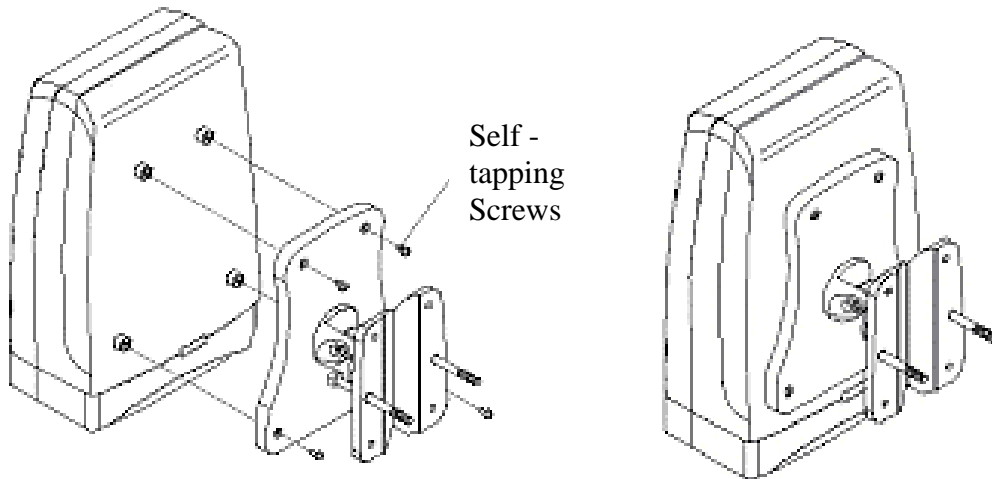

Figure 10-8: Mounting bracket assembly secured to IDR
5. Once assembled, the IDR mounting bracket assembly may be secured to the rear of the IDR using the 4-off self-tapping screws supplied in the unit fixing kit. See Figure 10-8.